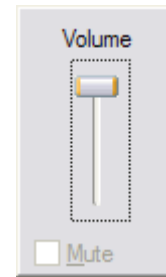
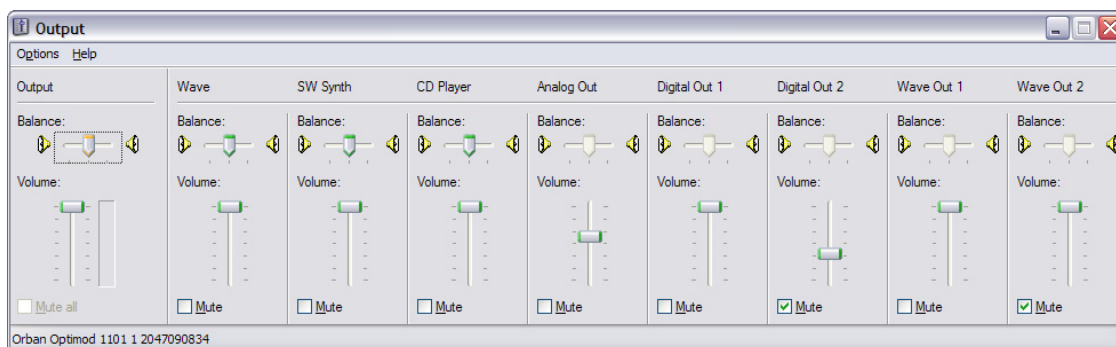

Figure 2-7
Figure 2-8: MS Mixer Output
Most PCs have a master WAVE volume control that you can access from the speaker icon in the System Tray (Figure 2-7). If you are using the OPTIMOD-PC as your computer's default sound card, OPTIMOD-PC's driver defeats the MS Mixer's Wave Volume control, forcing it to full gain. This attempts to ensure that the OPTIMOD-PC I/O Mixer's gain is calibrated correctly. The reason it cannot predictably do this is that there is another WAVE gain control in series with the master volume control. This control is located in the Windows Output Mixer (Figure 2-8).
Right-clicking the speaker icon and choosing Volume opens the Windows Output Mixer. This mixer has several controls. One is the Output control, which is the same control that appears when you click the speaker icon and is (to repeat) defeated by the OPTIMOD-PC driver. The other controls are typically (1) WAVE (the culprit mentioned above), (2) Music Synthesizer (shown as SW SYNTH in Figure 2-8), and (3) CD